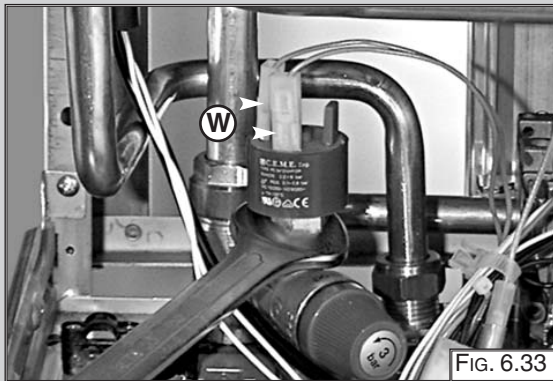

FIG. 6.33
1. Remove the pump pressure switch electrical connections "W" (FIG 6.33);